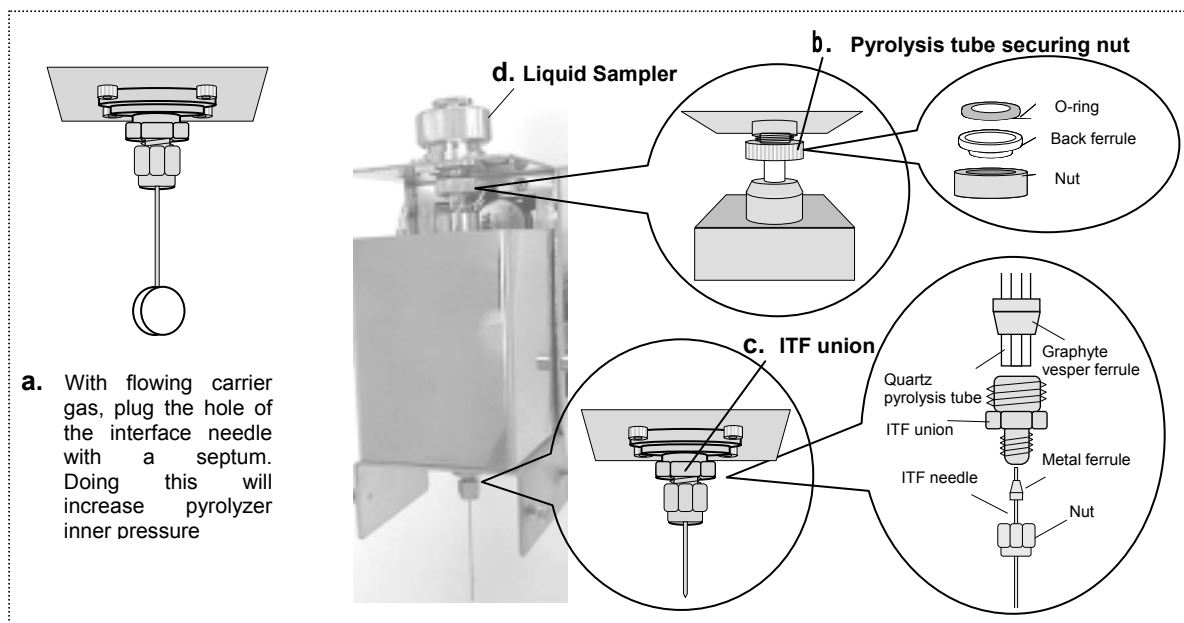

Fig. 6.1 Where to check gas leakage
- O-ring, for sealing upper end of the quartz pyrolysis tube (Fig. 6.1 b).
- Graphite vesper ferrule, sealing quartz pyrolysis tube and interface union (Fig. 6.1 c).
- Metal ferrule of the interface needle (Fig. 6.1 c).
- Sampler or foreign objects on sampler base (Fig. 6.1 d).